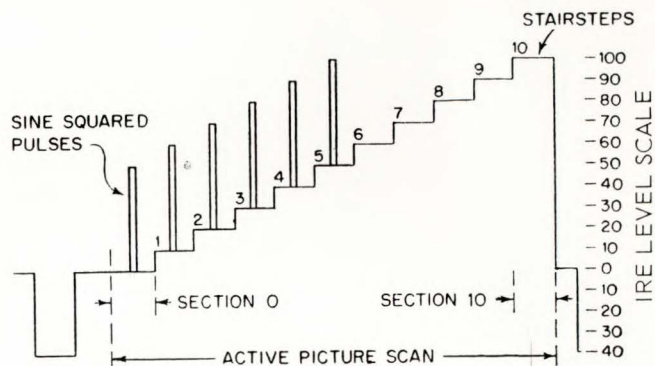

Fig. 1. Bands 1 through 4.
- Bands 1 through 8, the same as the accompanying stair-step section level, as shown in Figs. 1 and 2.